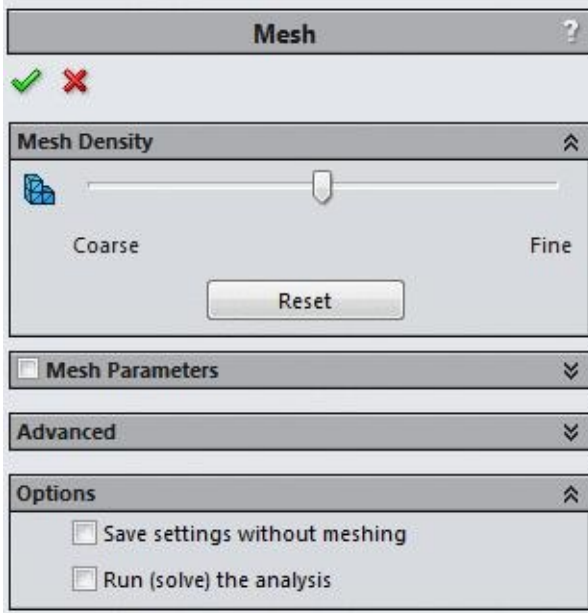

Figure-6. Mesh PropertyManager
- Again, right-click on **Mesh** in the **Analysis Manager** and select the **Create Mesh** button. The **Mesh PropertyManager** will be displayed; refer to Figure-6.